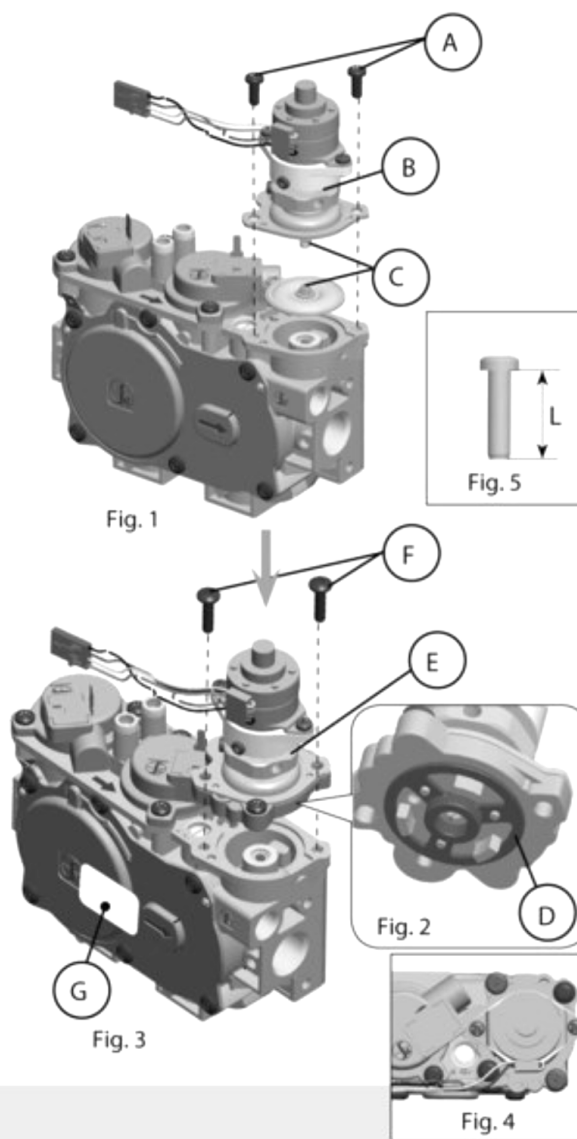

Figure 4-12 Pressure Regulator Conversion
4. See Figure 4-12 2: Ensure the rubber gasket (D) is properly positioned. The rubber gasket is pre-fitted as part of assembly (E).
5. See Figure 4-12 3 and Figure 4-12-4: Install the new stepper motor pressure regulator assembly. Use the provided screws (F), M4 x 0.7 threaded; length of thread L= (16mm + 0 – 0.5mm), steel material, resistance class 8.8 (Figure 4-12-5).
8. Install the enclosed identification label (G) to the valve body where it can be easily seen.